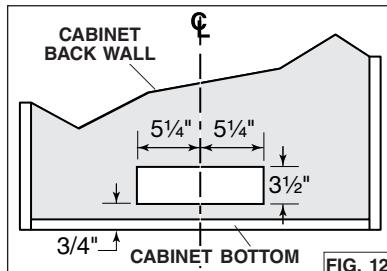

FIG. 12
8. Cut the hole for the horizontal exhaust through the back wall of the cabinet using the dimensions shown (FIG. 12).